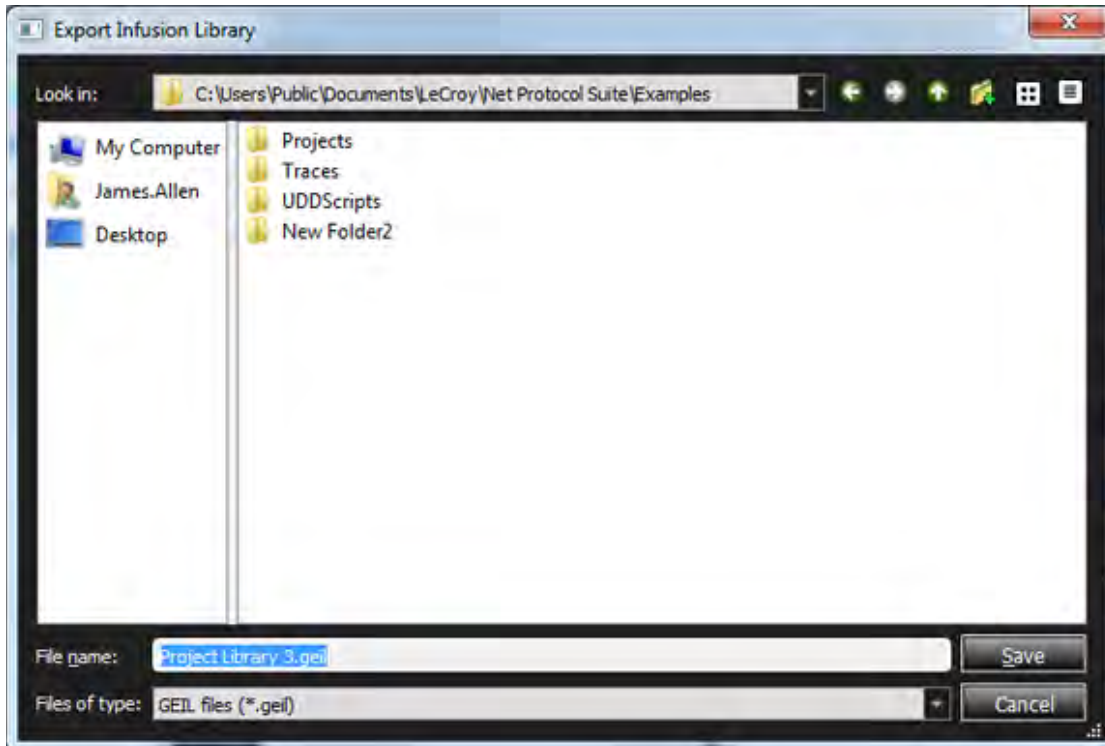

Figure 6.17: Select a Project Library to Export
2. Select the **Project Library** you need. A window containing the contents of the selected library appears (Figure 6.17).